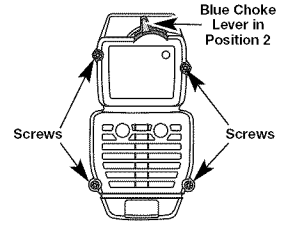

Fig. 20
2. Remove the four (4) screws securing the air filter/muffler cover (Fig. 20). Use a flat blade or T20 Torx bit screwdriver.
2. Insert the four (4) screws into the holes in the air filter/muffler cover (Fig. 20) and tighten. Do not over-tighten.